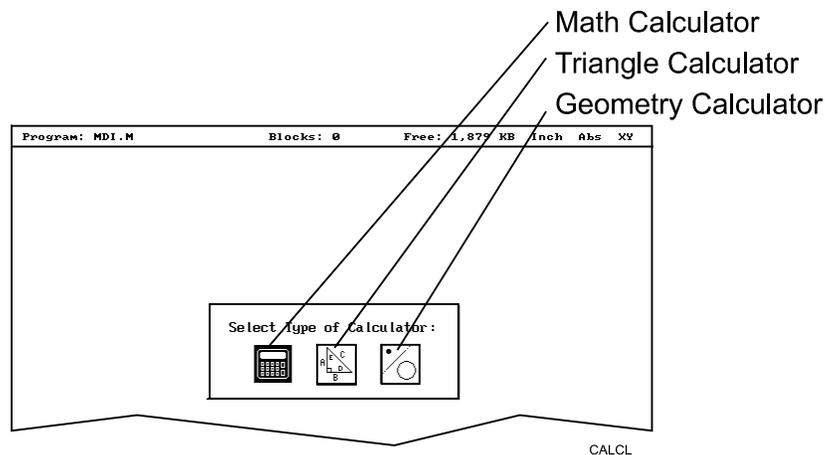

Figure 5-1, Calculator Selection Menu
1. Refer to **Figure 5-1**. In Edit or MDI Mode, press **Calc (F7)**. The Calculator Selection Menu is displayed on the screen.
1. Refer to Figure 5-1, Calculator Selection Menu. In Edit or MDI Mode, press **Calc (F7)**. The Calculator selection menu is displayed.